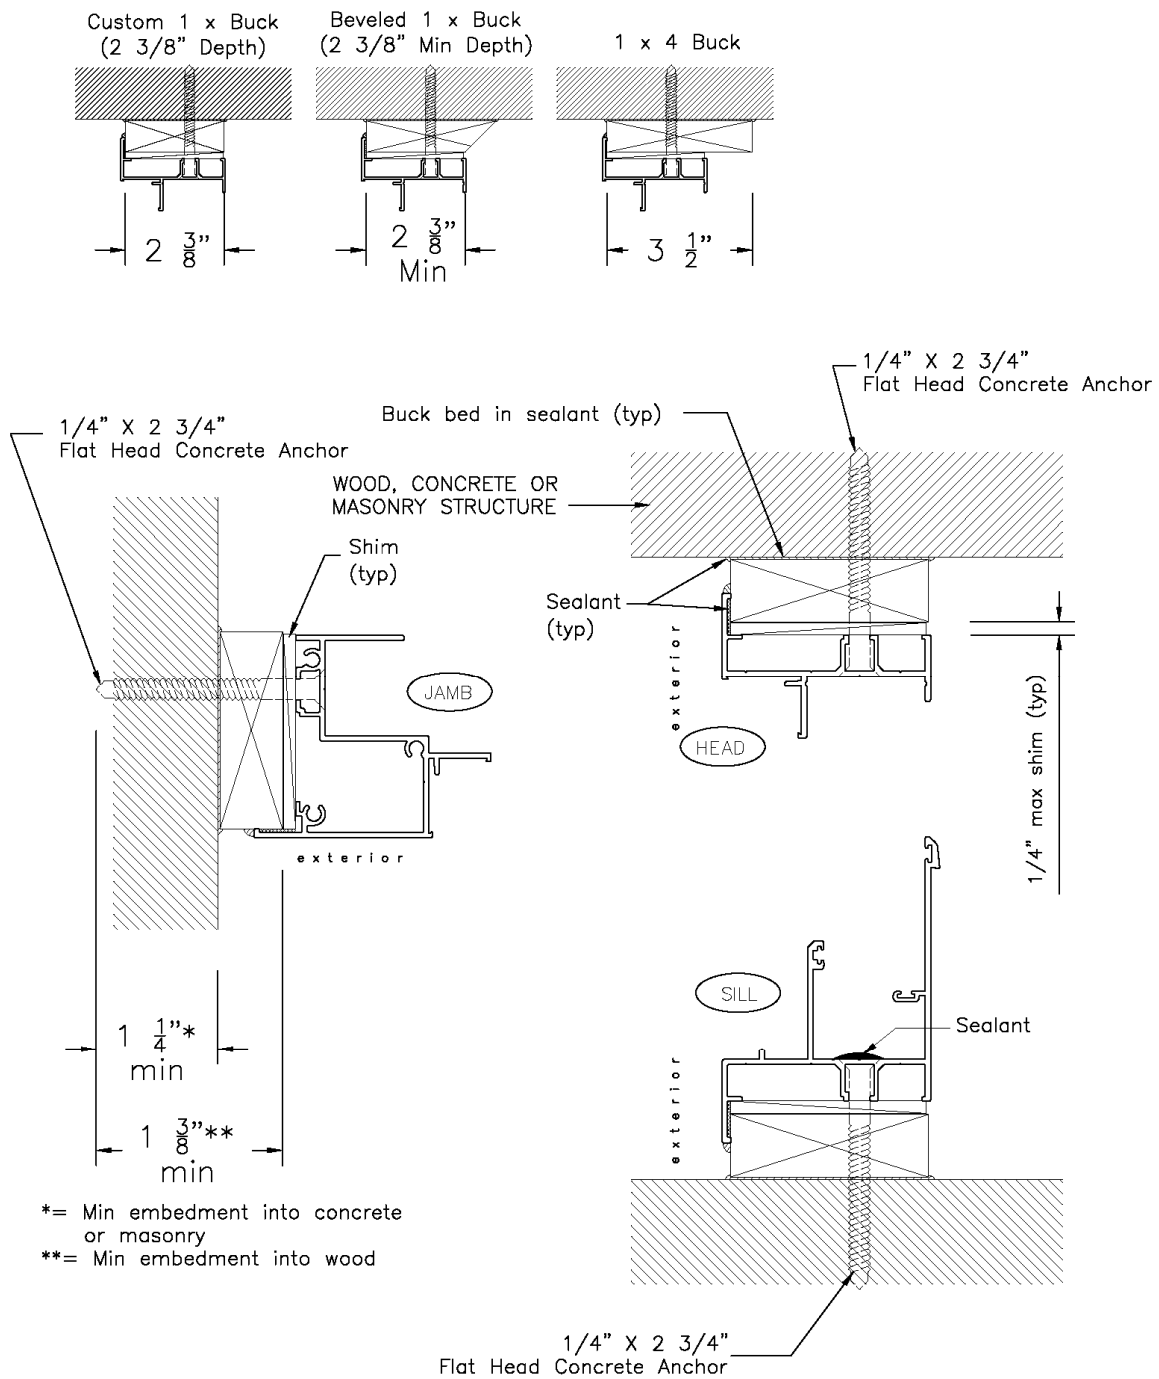

Figure 3: Installation type "A" using 1 x bucks
Page 7:	Figure 3: Installation type “A”
for Flange or Equal Leg (Flush) Frame Windows (Refer to Figures 3, 4, & 5)
2. If wood bucks are being used, make sure they are of the correct size and type for the installation method being used (*see figures 3 and 4 - Installations Types A and B*). The bucks must be properly bed in sealant and securely attached to structure. Wood bucks should not be separated at corners. Verify that wood bucks are plumb, level and square. Note that Installation Type C (Equal/Flush Leg) does not require a wood buck.
5. Temporarily secure window frame using installation screws as selected from the approval documents for your specific application (*see figures 3 – 5*). To simplify the pre-installation process, you may want to use a smaller temporary screw such as a #12 Sheet Metal Screw and only penetrate the wood. Shim every installation screw snugly (shim space should not exceed ¼”). Temporarily secure the window with one screw at each end of jamb member (top & bottom). Make sure window operates correctly and is plumb, level and square. **Caution: Any window, which is forced into an opening and racked or twisted, can eventually cause glass breakage.**
Window attachment to structure	Based on installation type used. Refer to figures 3 through 6 in these instructions for the minimum screw size recommended in installations type A, B, C, or D. Also, refer to approval documents.